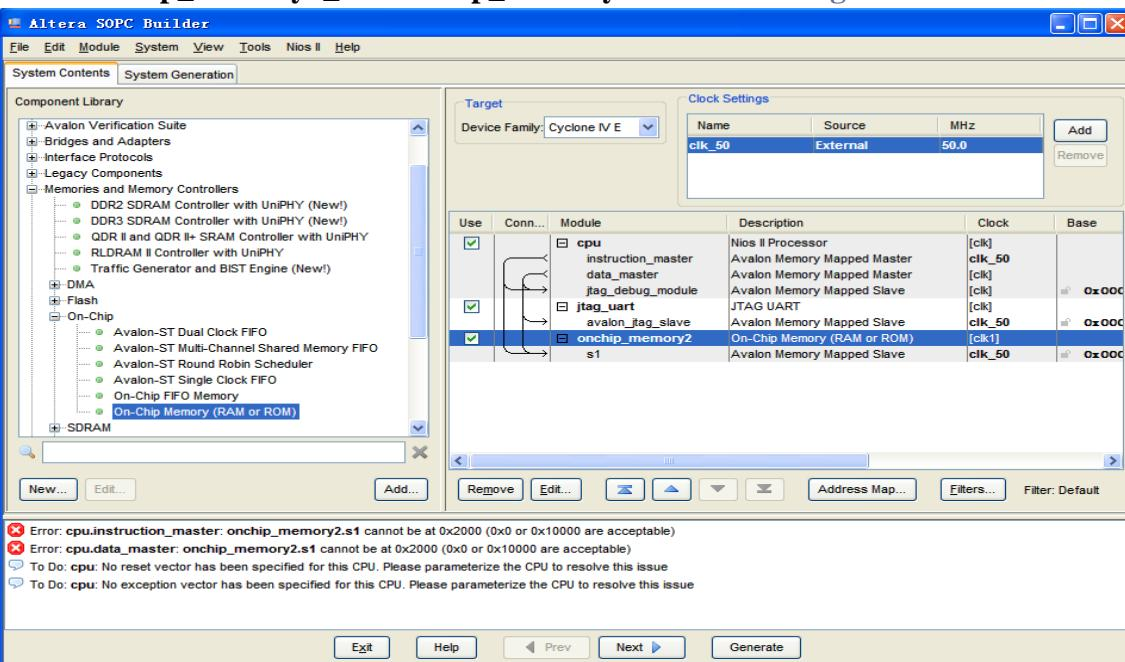

Figure 7-27 Rename On-Chip memory
17. Rename **onchip\_memory2\_0** to **onchip\_memory2** as shown in **Figure 7-27**.